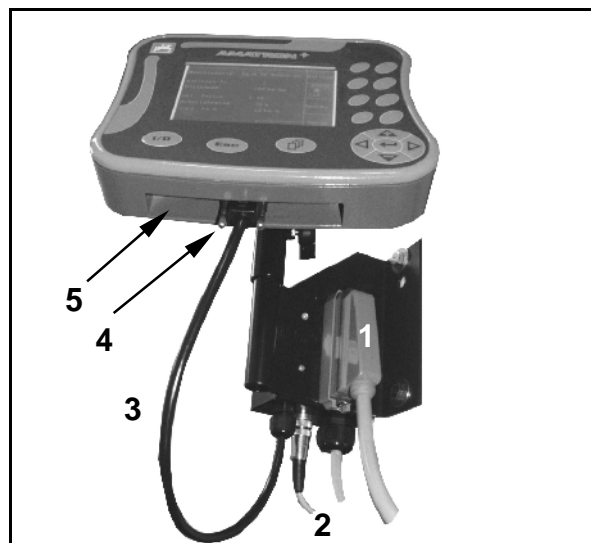

Fig. 174
1. Connect cable (Fig. 174/1) from machine computer with **AMATRON+**.
2. Connect the signal cable (Fig. 174/2) of the tractor signal socket or of Sensor X with the tractor basic equipment.
3. Insert the plug of the connection cable (Fig. 174/3) into the centre 9-pole Sub-D-bushing (Fig. 174/4) on **AMATRON+**.
The serial interface (Fig. 174/5) allows the connection with a GPS-Terminal.